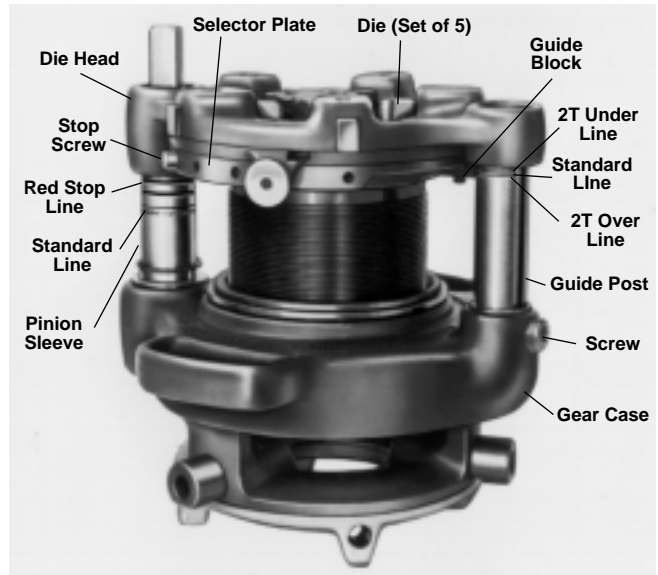

Figure 23 – No. 141 Geared Threader
1. Remove stop screw (*Figure 23*) from selector plate.